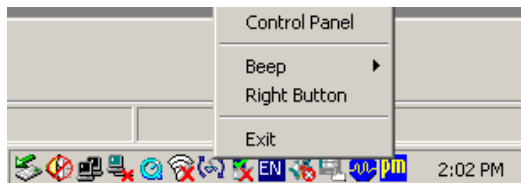

Figure 5-7: PenMount Monitor Popup Menu
- Step 4:** Click the icon. A pop up menu appears. See **Figure 5-7**.
Step 5: Click Control Panel in the pop up menu shown in **Figure 5-7**.